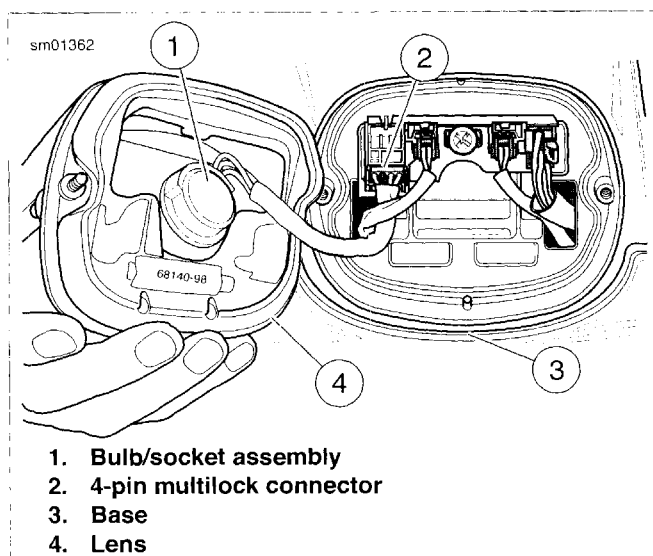

Figure 6-51. Tail Lamp (Typical, XL Models Shown)
2. See Figure 6-51. Remove two screws and lens (4) from base (3).
4. Turn socket assembly (1) one-quarter turn counterclockwise to release assembly from lens. Remove (pull) assembly from lens. Remove bulb from socket.